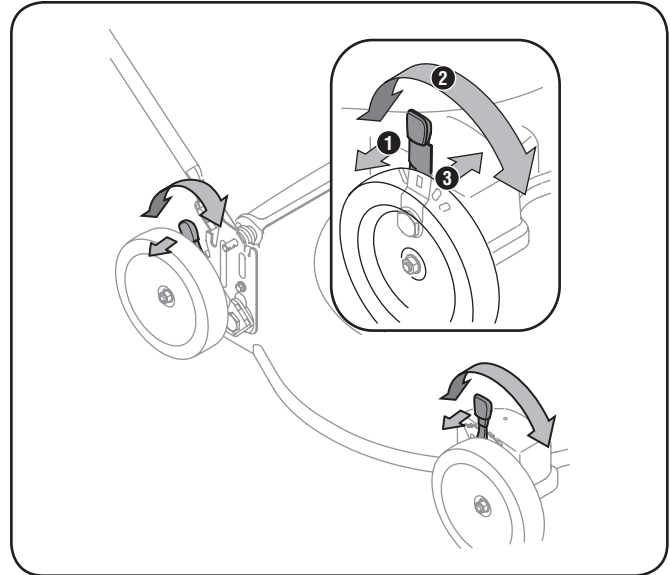

Figure 3-7
2. Slide lever to desired position for a change in cutting height. See Fig. 3-7.